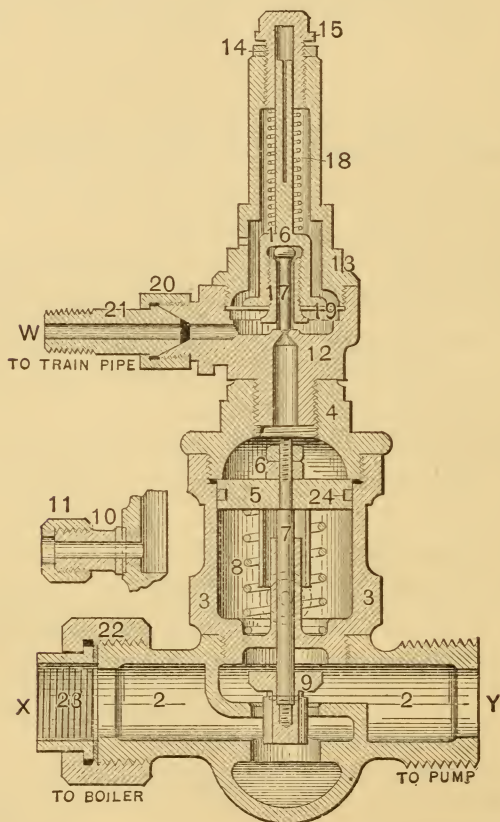

FIG. 43.—OLD STYLE PUMP GOVERNOR.
A. Yes, because instead of one diaphragm, like 19 (Fig. 43) in the old governor, there are two thin diaphragms in the new.